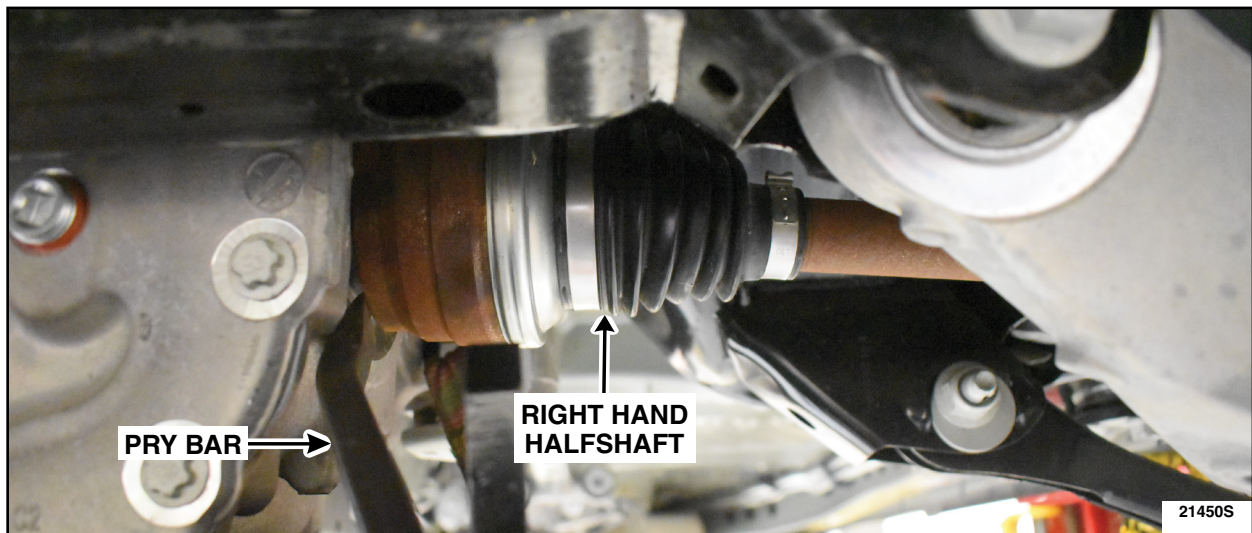

FIGURE 1
4. Using a pry bar, disengage the Right Hand (RH) halfshaft inner halfshaft circlip. See Figure 1.